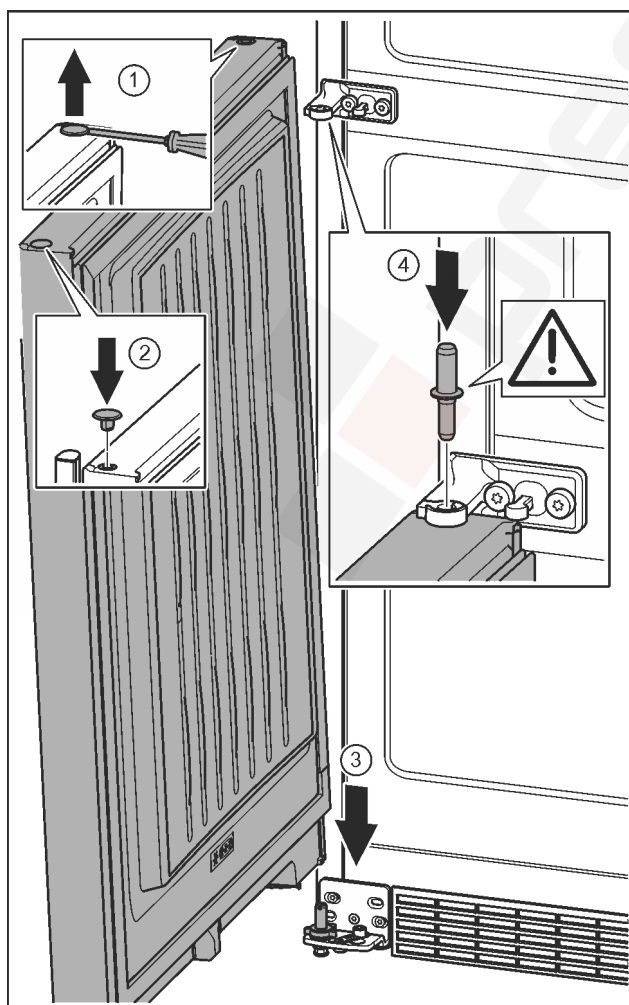

Fig. 38
- Carefully lift up the plugs with a slotted screwdriver and remove them. Fig. 38 (1)
- Insert the plugs again on the other side of the door. Fig. 38 (2)
- Position the door from above onto the lower bearing pins. Fig. 38 (3)
- Insert the centre bearing pin through the centre bearing bracket into the lower door. Make sure that the catch mechanism is pointing to the rear. Fig. 38 (4)